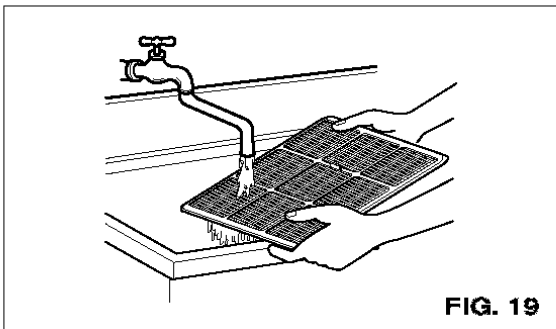

FIG. 19
- Wash the Air Filter under the faucet with warm water. Be sure to shake off all the water before replacing the filter. (FIG.19)